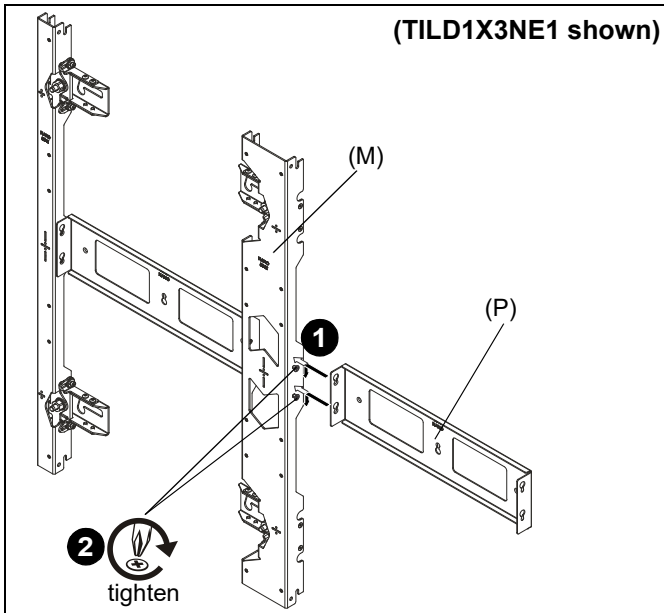

Figure 15
1. Hang spacer plate (P) onto lower screws installed in previous section on middle upright (M). (See Figure 15)
2. Tighten both screws (Q) to secure spacer plate (P) to middle upright (M). (See Figure 15)